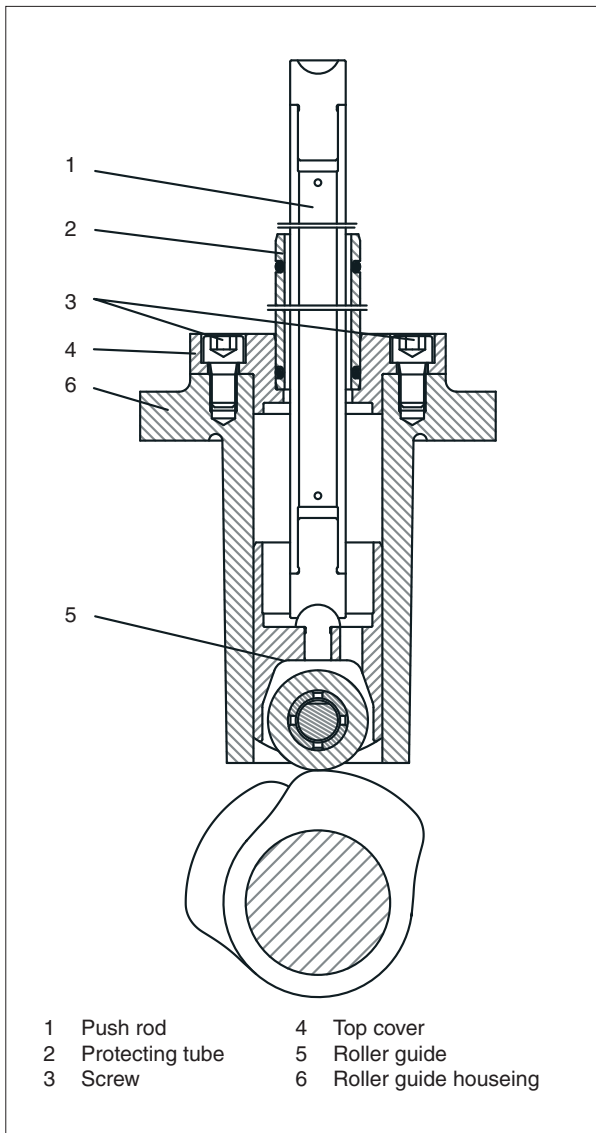

Fig 1.
- 3) Remove the push rods (1), *see fig 1*.